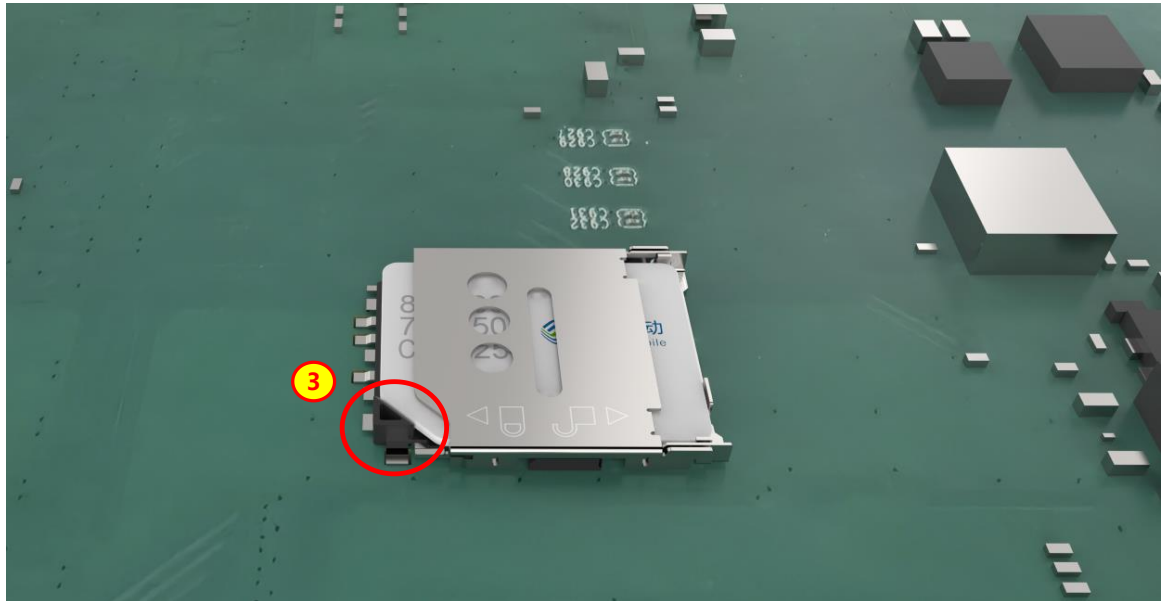

Figure 4-12: Install the SIM Card and Close the Upper Cover
Step 3: Place the SIM card onto the SIM card slot, then close the upper cover of the SIM card slot (See Figure 4-12).